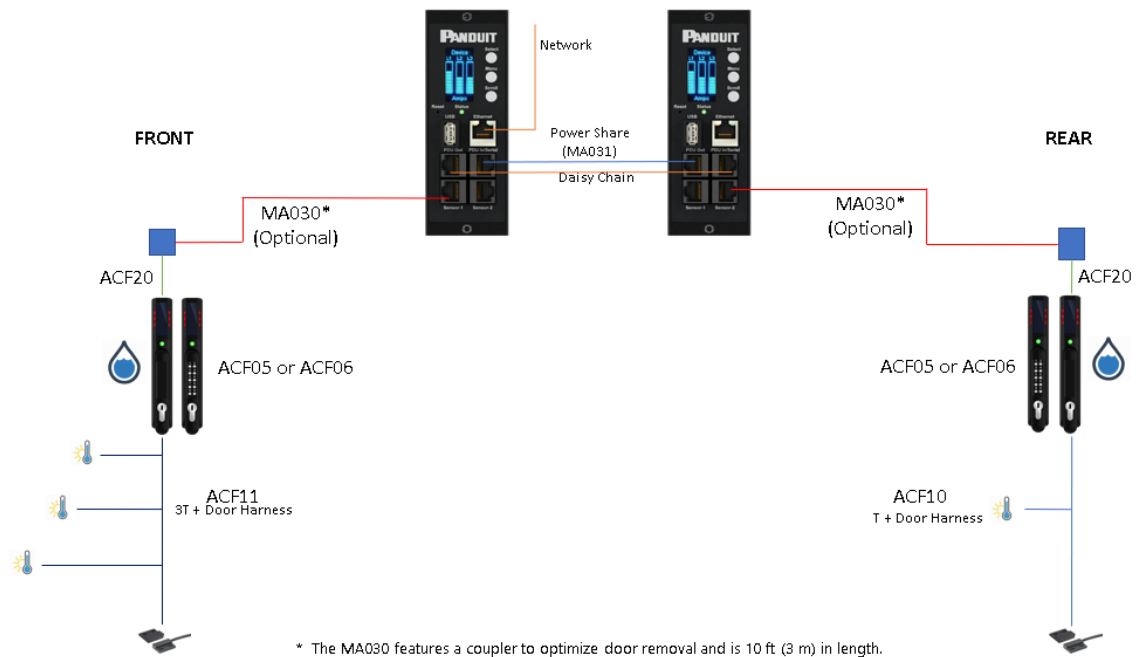

Figure 1: Connection Diagram Smart Zone Security Handle
2. Figure 1 for standard applications.